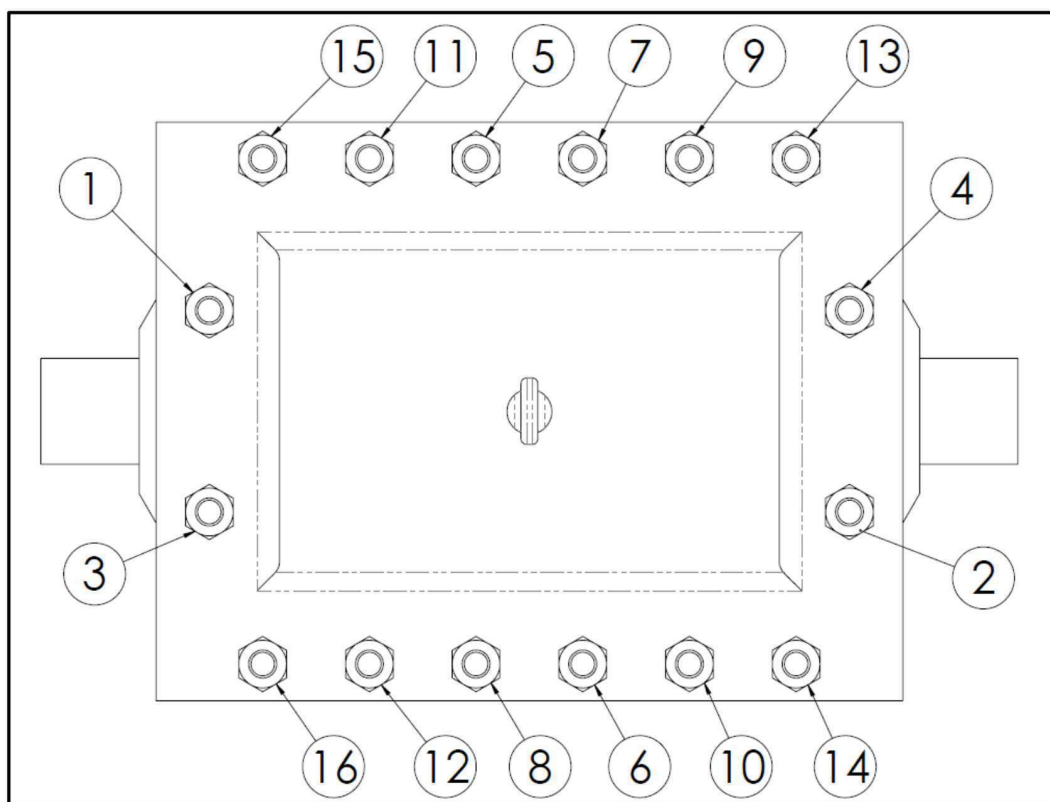

Figure 5
6. Torque the studs uniformly as indicated by the corresponding value per bolt size from the **PLIDCO Torque Chart** located on page 13 of these instructions. The best results are obtained by maintaining an equal gap all around the side bars while tightening the studs. Ensure there is full nut engagement by having a minimum of 1/4 inch (6.4 mm) of stud extending beyond the nut. The sequence for torquing the studs should follow the pattern shown Figure 5, and should be executed repeatedly as follows: